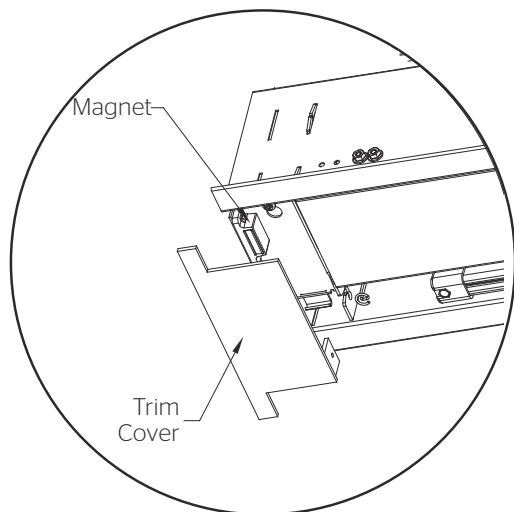

Figure 2
6. Install finishing trim covers on both ends of the case. Line up trim cover flush with case. Magnet will hold cover in place and secure with safety screw #2 Phillips screwdriver through motor and pin end bracket (Figures 2 and 3).